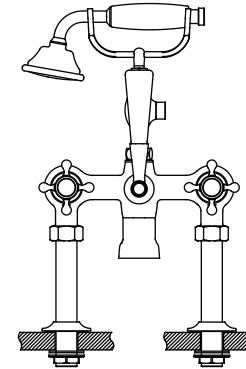

Fig. 2
- Use the washers and backnuts provided to install the mixer into the bath as shown in Fig. 2;